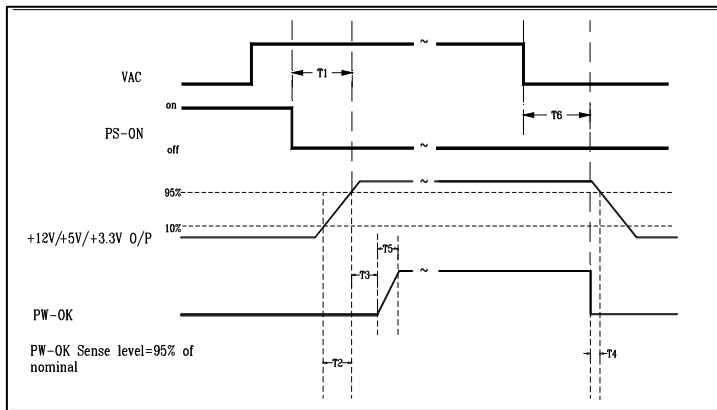

Figure 4. PS-OK Timing Sequence
4.3 Hold up time (T6 of figure 4.)